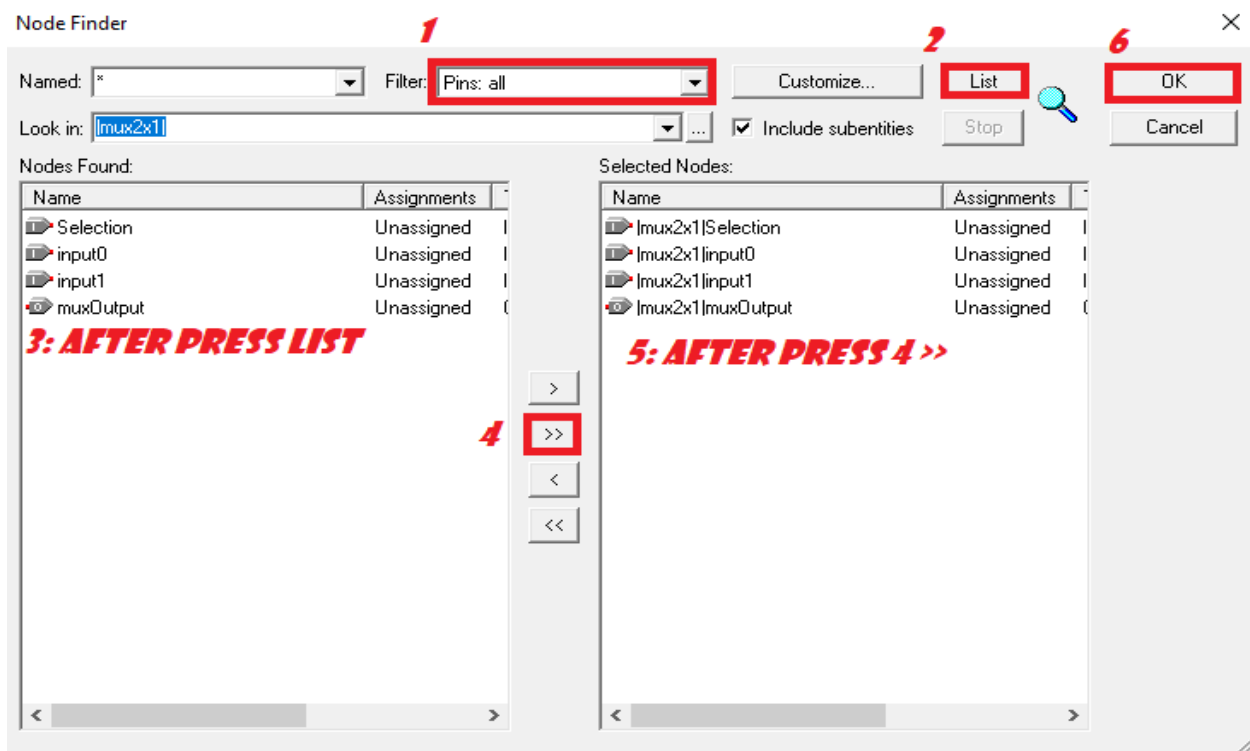

Figure 3.4: Follow the steps from 1 to 6
An empty blank (1) will be shown, double click on it well show blank (2). See Figure 3.4